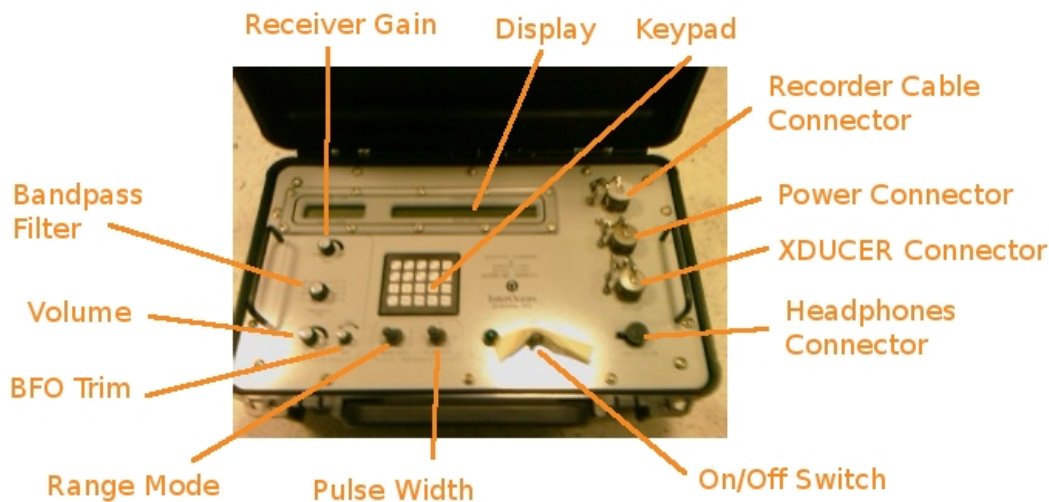

Figure 2.2: Operation selectors location in the Command Unit's panel
The equipment described in this manual is used with the purpose of remotely recovering subsurface equipment by sending acoustic signals. Each basic release system consists of a surface and a subsurface unit. The surface unit consists of a Model 1100E Acoustic Command transmitter which generates the appropriate coded acoustic command signals, and a Model 1120 Command Transducer which couples the acoustic command signals into the water. The subsurface unit consists of the Model 111 Acoustic Release. The subsurface unit consists of a Model 111 Acoustic Release System. Figure 1.1 shows the surface unit and Figure 2.2 shows the subsurface unit.
2. Reset the Releaser, placing the magnetic elements over the black dots on the middle of the external surface of the Releaser. Monitor the rotation of the hook and remove the magnetic elements when the hook is in line with the release pivot (the black dots are visible in Figure 2.2). **WARNING: Be extremely careful to prevent the hook from jamming into the release pivot. This may cause irreversible damage to the Releaser. It is highly recommended to put some tape in the release pivot so that it remains in a safe position.**